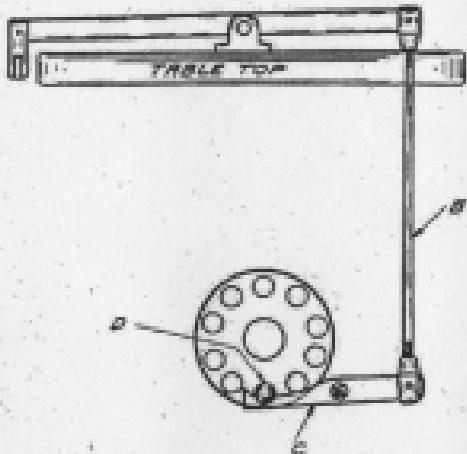

Fig. 1
Figures 1 and 2 show how to attach the starting mechanism and its operation.
Pressing up on the lever (A) (Figures 1 and 2) raises the rod (B) which draws the finger (C) away from the catch pin (D). The pin is pushed into the first one of ten contact holes in the clutch disc by a spring and makes one revolution, riding out on the finger (C) when it is completed. Adjustment of the starting mechanism is made at the rod (B).